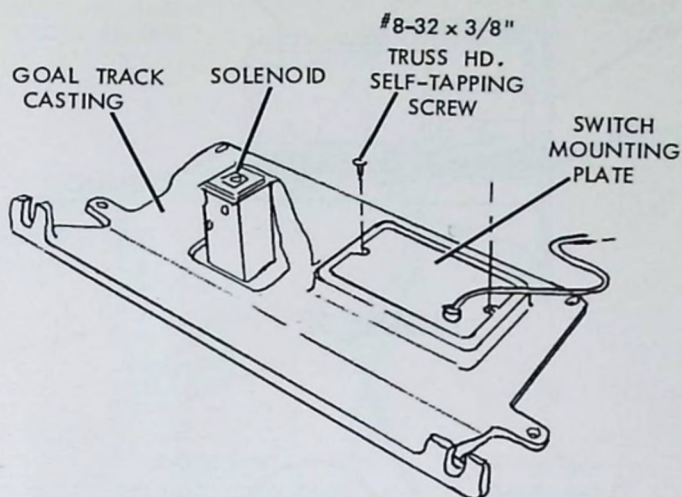

FIGURE 18
28. The switch and mounting plate taped to the underside of the bed should be attached to the goal casting as shown in (Figure 18).